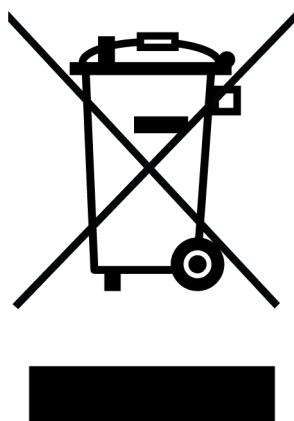

Figure 14 **Crossed out 'wheelie bin' symbol**
- marked correspondingly with the crossed out 'wheelie bin' logo (see Figure 14)